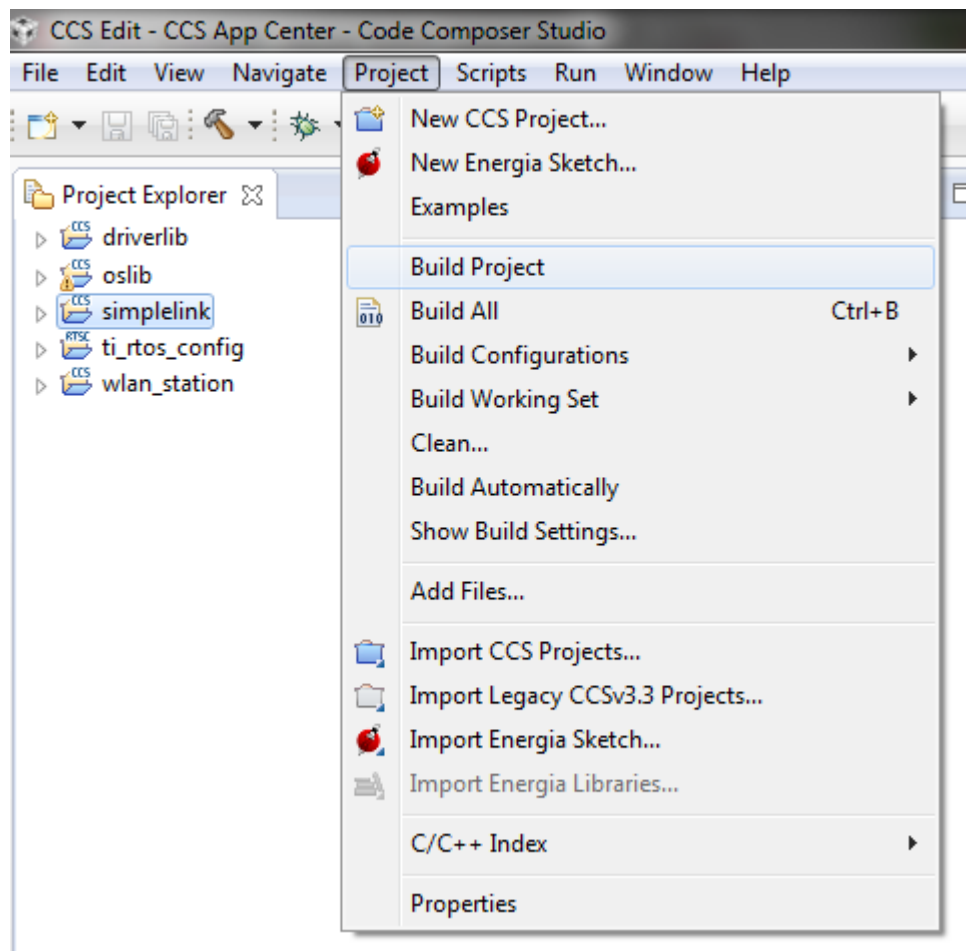

Figure 12. Select *simplelink* Project
5. Select the *simplelink* project and build it as shown in Figure 12.